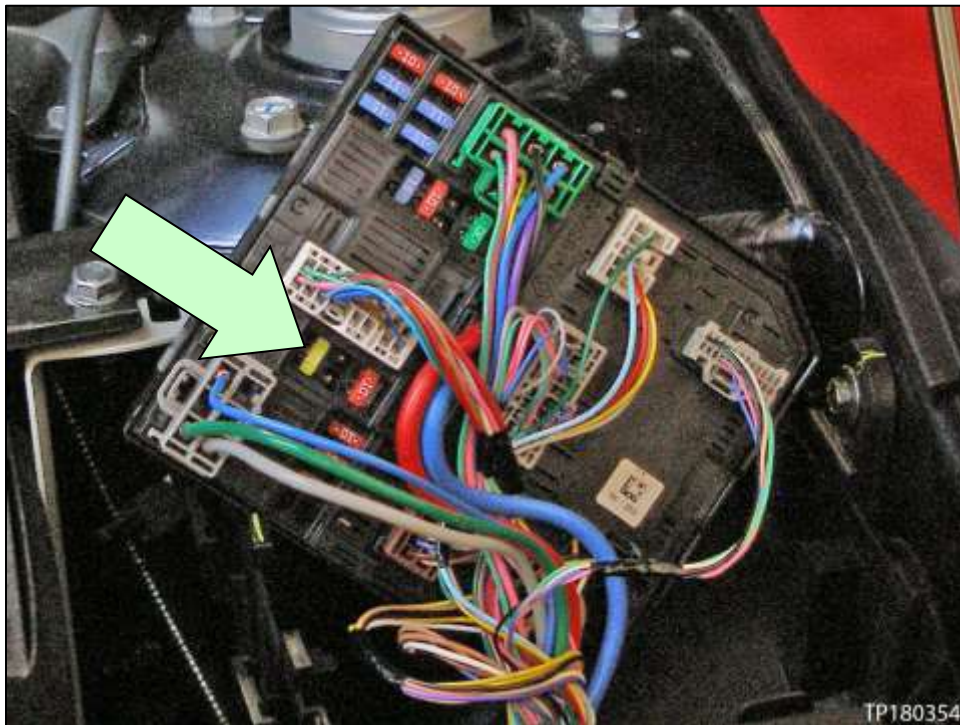

Figure 1
- b. Remove the # F11 20 amp fuel pump fuse (see arrow in Figure 1).